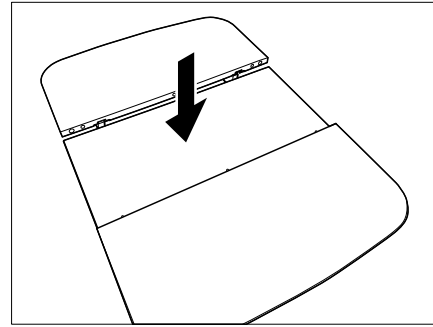

Fig. 109 Lower the middle part
- Push the middle part of the table firmly downwards (Fig. 109). The middle part is pushed upwards through the spring force.
- Push the middle part of the table firmly downwards. The middle part latches into the lower position (Fig. 109).